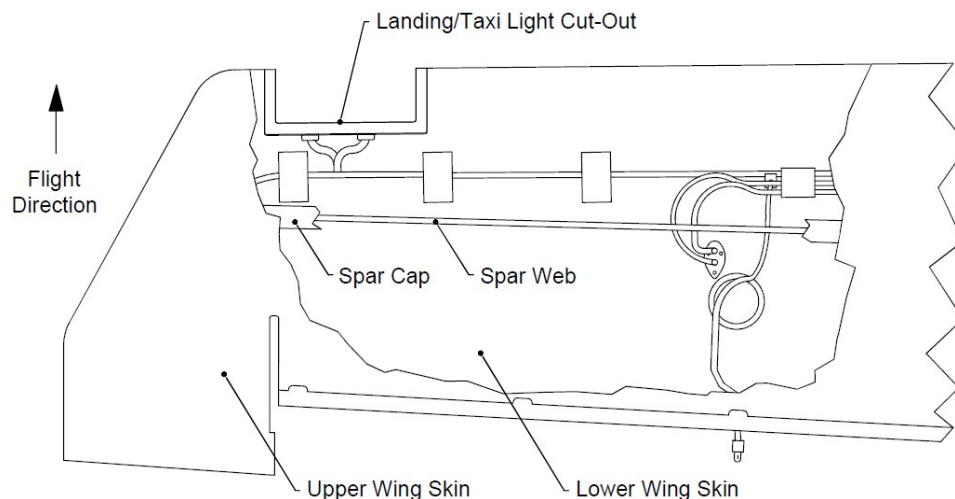

Figure 35: Left Wing Access through Landing/Taxi Light Cut-Out
- 13.1.6** Gain access to the outboard left wing (forward of spar section) through the Landing/Taxi Light Cut-Out, as shown in Figure 35.